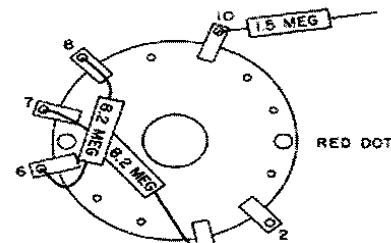

Figure 17 - Placement of parts on the front of deck C.
The first wiring on deck C will consist of installing two resistors on the front of deck C. Refer to Fig. 17 for the placement of these resistors.
- () Connect one lead of an 8.2-megohm, 1% resistor to terminal 3 on the front of deck C. Connect the other lead to terminal 7 on the front of deck C. See Fig. 17 for placement of the resistor. Cut off the excess wire. Solder terminals 3 and 7.
- () Connect one lead of an 8.2-megohm, 1% resistor to terminal 6 on the front of deck C. Connect the other lead to terminal 8. Position the resistor as shown in Fig. 17. Solder terminals 6 and 8 on the front of deck C.